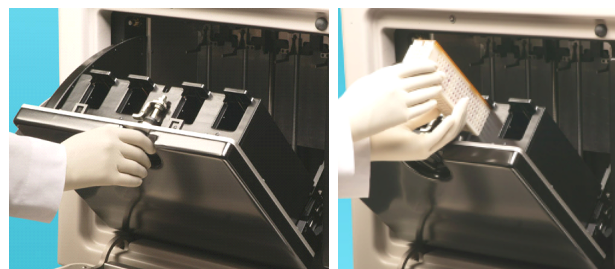

Figure 4-G: Loading a Magazine
4. Open the input door by turning the knob counter clockwise (Figure 4-G).